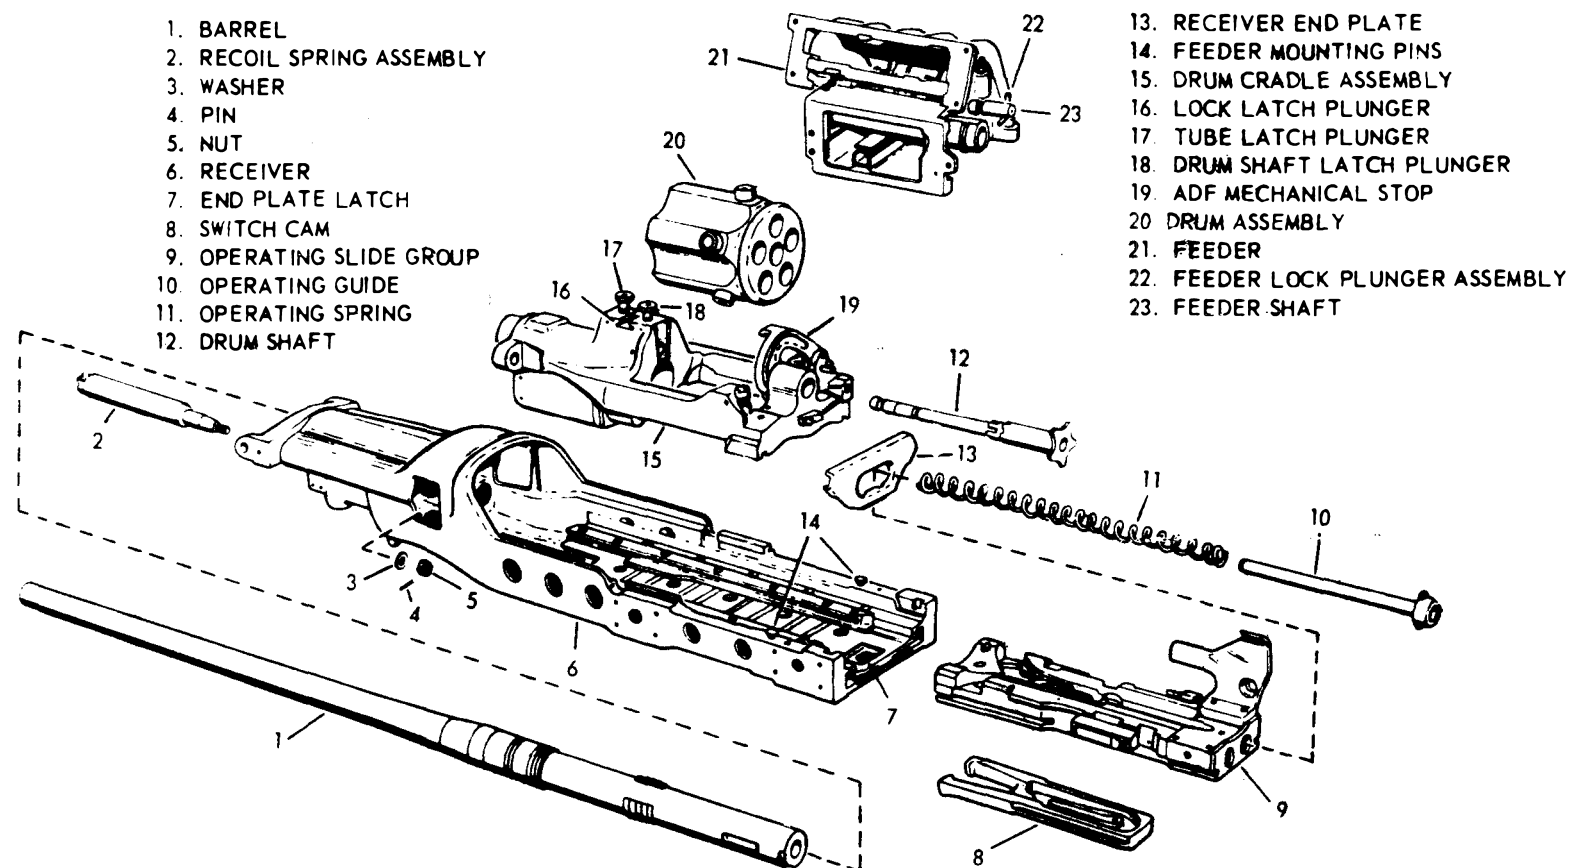

Figure 9-10. Major Components of the M39A2 20-mm Automatic Gun
a. Remove the cartridge case ejection chute from the rear of the feeder (figure 9-10, callout 21).
b. Raise the two feeder lock plunger assemblies and remove the feeder (figure 9-10, callout 22).
c. Unlock the barrel and drum latch plungers by depressing the lock ball and sliding the lock latch plunger outward (figure 9-10, callout 16).
d. Raise the drum shaft latch plunger (figure 9-10, callout 18).
e. Remove the drum shaft (figure 9-10, callout 12).
f. Remove the drum (figure 9-10, callout 20). The gun is now clear.